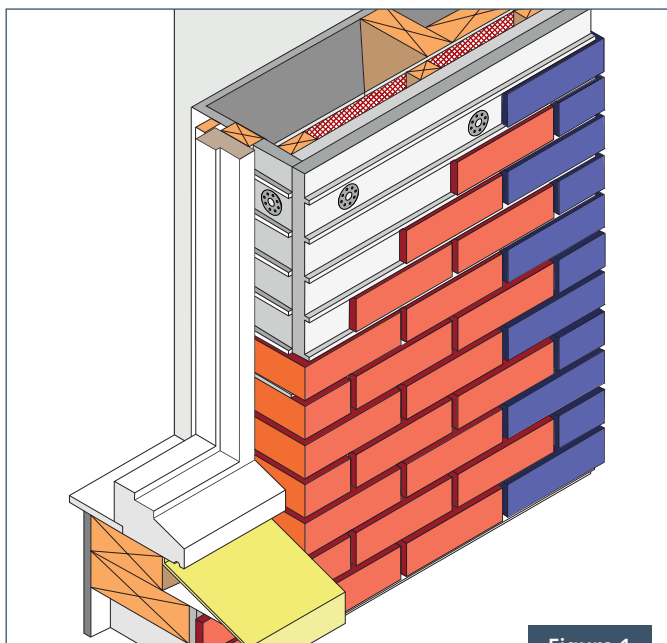

Figure 1
• **Sheathing on metal or timber framing – Figure 1**